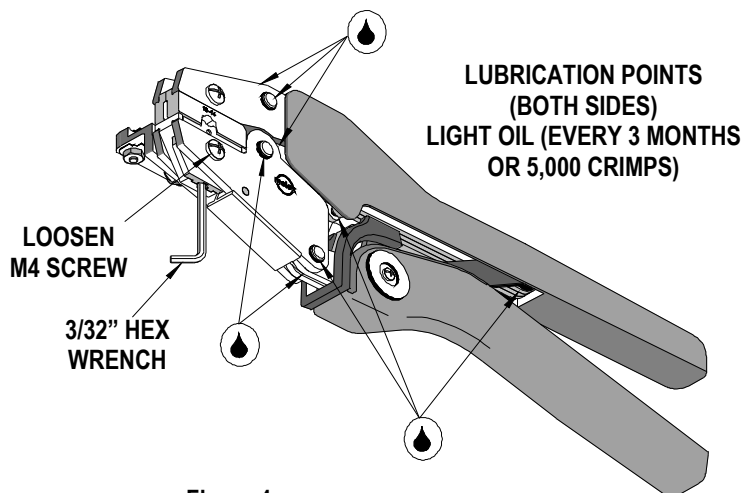

Figure 4
6. If the insulation part of the crimp needs to be adjusted, first loosen the M4 screw on the bottom tool jaw, then insert a 3/32" hex wrench (supplied) into the bottom of the lower die. See Figure 4. A clockwise (CW) rotation decreases insulation crimp while a counter-clockwise (CCW) rotation increases insulation crimp. After adjusting retighten the M4 screw.
3. Make certain all pins; pivot points and bearing surfaces are protected with a thin coat of high quality machine oil. Do not oil excessively. This hand tool was engineered for durability, but like any fine piece of equipment it needs cleaning and lubrication for a maximum service life of trouble-free crimping. A light oil, such as 30 weight automotive oil used at the oil points shown in Figure 4, every 5,000 crimps or 3 months will significantly enhance the tool life and ensure a stable calibration.